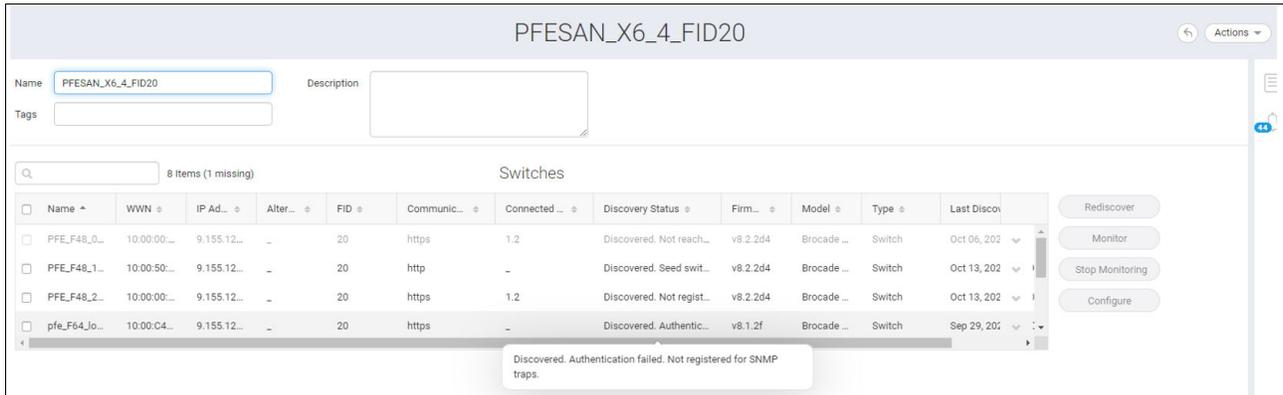

Figure 4-20 Discovery status
- Click the fabric name to open the fabric detail window, which displays the list of switches in the fabric, as shown in Figure 4-20.